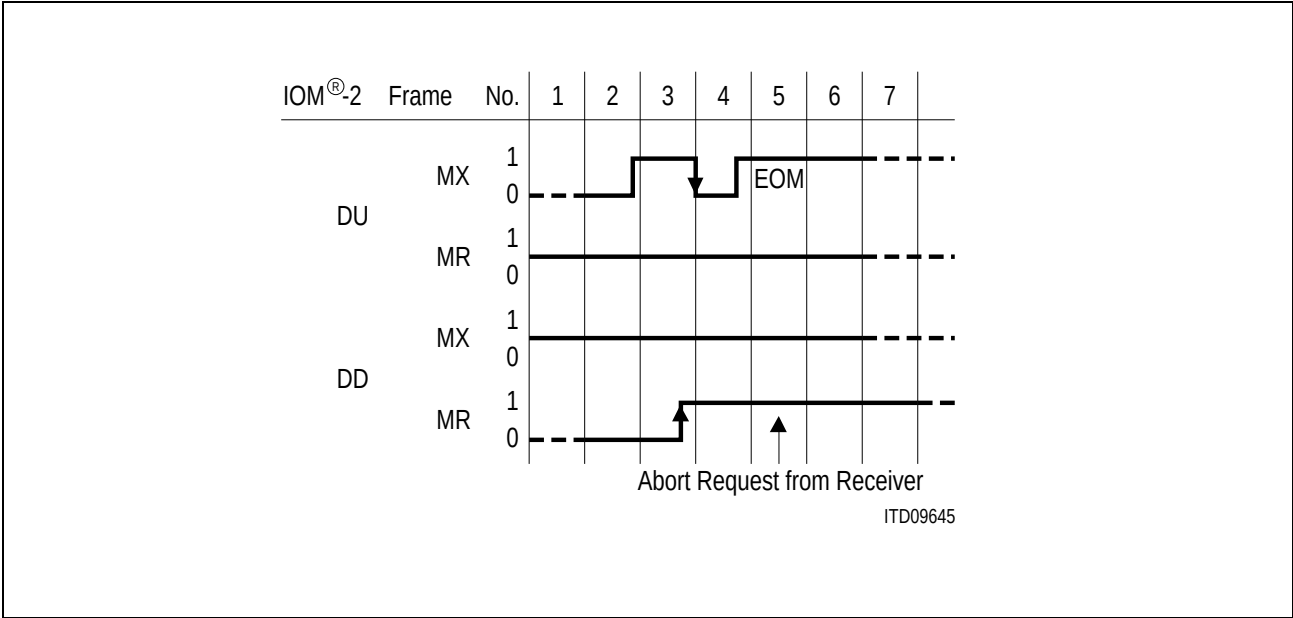

Figure 65      Abortion of Monitor Channel Transmission
**Figure 65** illustrates a monitor transfer at maximum speed. The transmission of a 2-byte monitor command followed by a 2-byte IPAC response requires a minimum of 12 IOM-2 frames. In case the controller is able to confirm the receipt of first IPAC response byte in the frame immediately following the MX transition on DOUT from HIGH to LOW (i.e. in frame No. 6), 1 IOM frame may be saved.